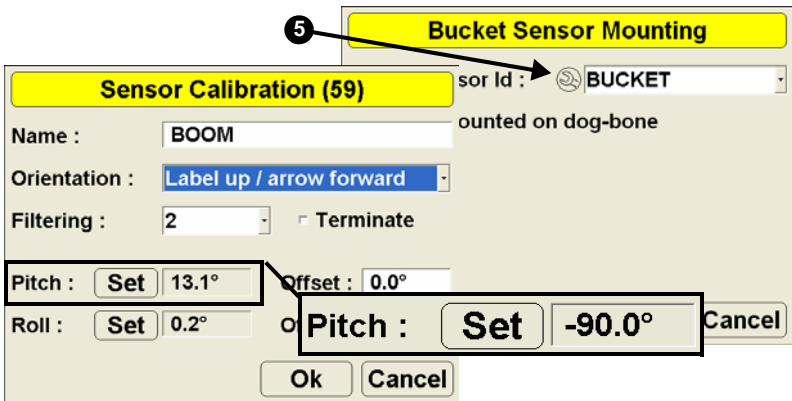

Figure A-15. Set Pitch Value to -90.0
5. Tap the Wrench button for the bucket sensor (Figure A-15 on page A-16).
6. Set the pitch to -90.0 and press Ok (Figure A-15 on page A-16).